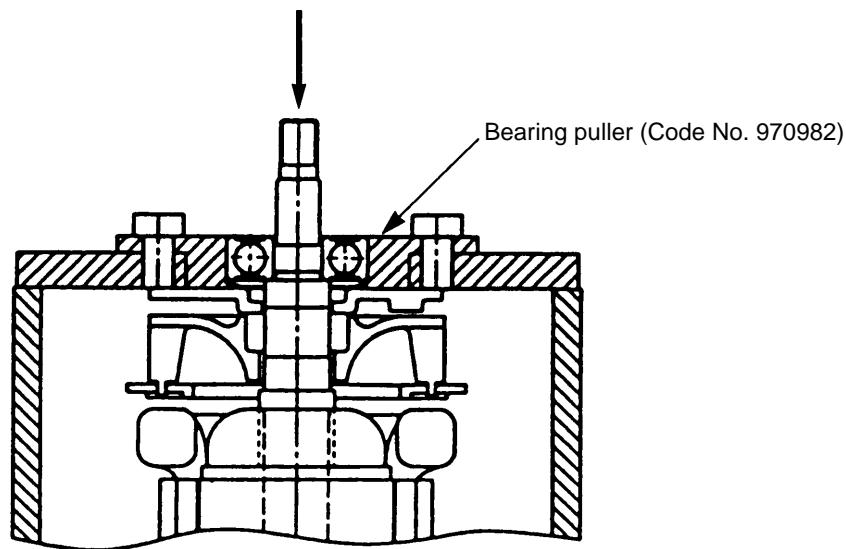

Fig. 3
- (5) Remove the four M5 x 16L Seal Lock Screws [28].
- (6) After removing the three M4 x 10 Seal Lock Screws [1], the Armature [13] can be extracted together with the Bearing Cover [12], and related parts.
- (7) Carefully wrap the Armature [13] with a soft, clean rag to protect it from being damaged, and clamp it securely in a vise. Then, remove the M7 Special Nut [5], and extract the Pinion [6].
- (8) For the models indicated under Fig. 3, the Ball Bearing [9] can be removed from the Armature [13] by utilizing a J-204 bearing puller (special repair tool, Code No. 970982) as illustrated. After the ball bearing has been removed, the Bearing Cover [12] can be easily taken off.